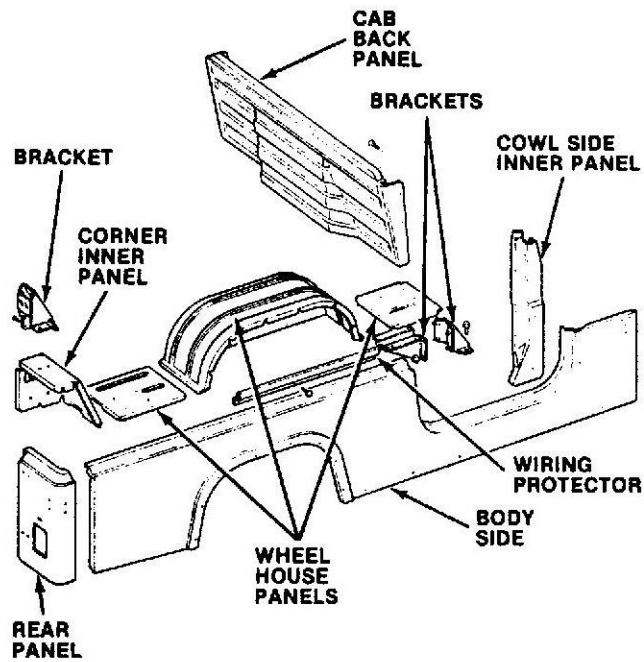

Fig. 9 Cab Back Panel
- (1) Move both seats forward.
- (2) Remove storage bag, if equipped with fabric top.
- (3) Remove back panel attaching bolts and removal panel (Fig. 9).
- (4) Remove sealing material from back panel-to-cargo box contact surfaces.
- (5) Apply new sealing material to cargo box contact surfaces of back panel. Use a silicone-type caulk or sealant to seal these surfaces.
- (6) Install back panel and panel attaching bolts.
- (7) Install storage bag, if equipped with fabric top.
- (8) Return seats to original positions.